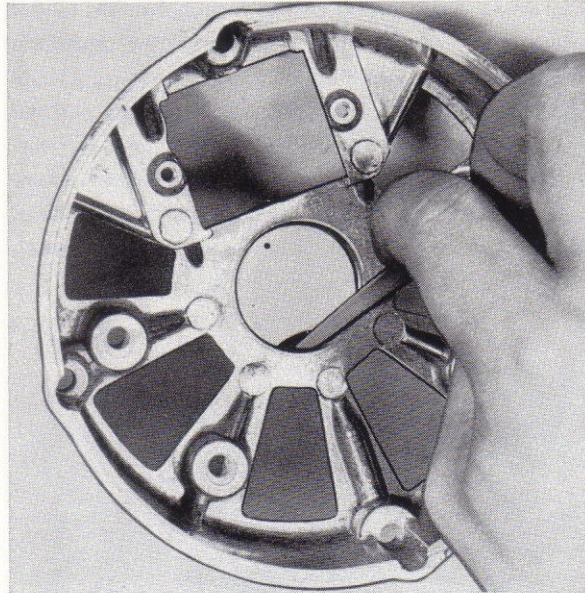

Fig. 37. Removing the O-ring
1. Remove the O-ring with a steel blade with rounded edges (for example, a feeler gauge), see Fig. 37.